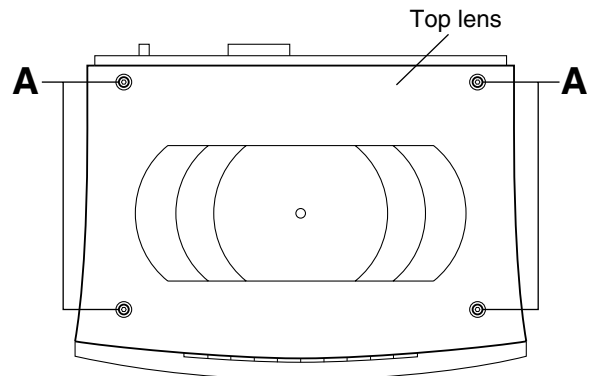

Fig.1
■ Removing the top lens (See Fig. 1.)